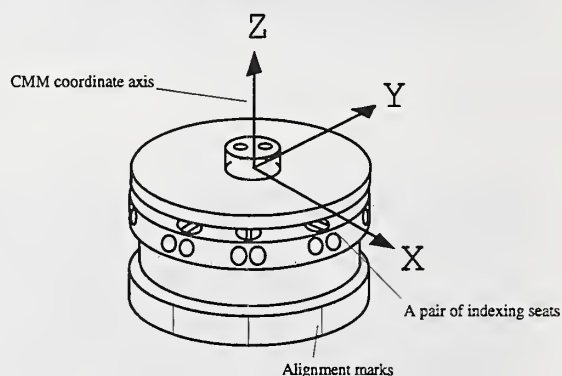

Figure 8. Aligning the ITA with the CMM coordinate axis
- (1) A pair of indexing seats and corresponding alignment marks are parallel to the X and Y axes of the CMM (see figure 8). This alignment may be done by eye, and need only be accurate to a few degrees.